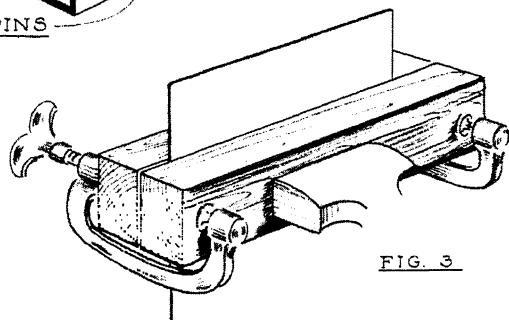

FIG. 3
3. Bend the box part (Fig. 3).